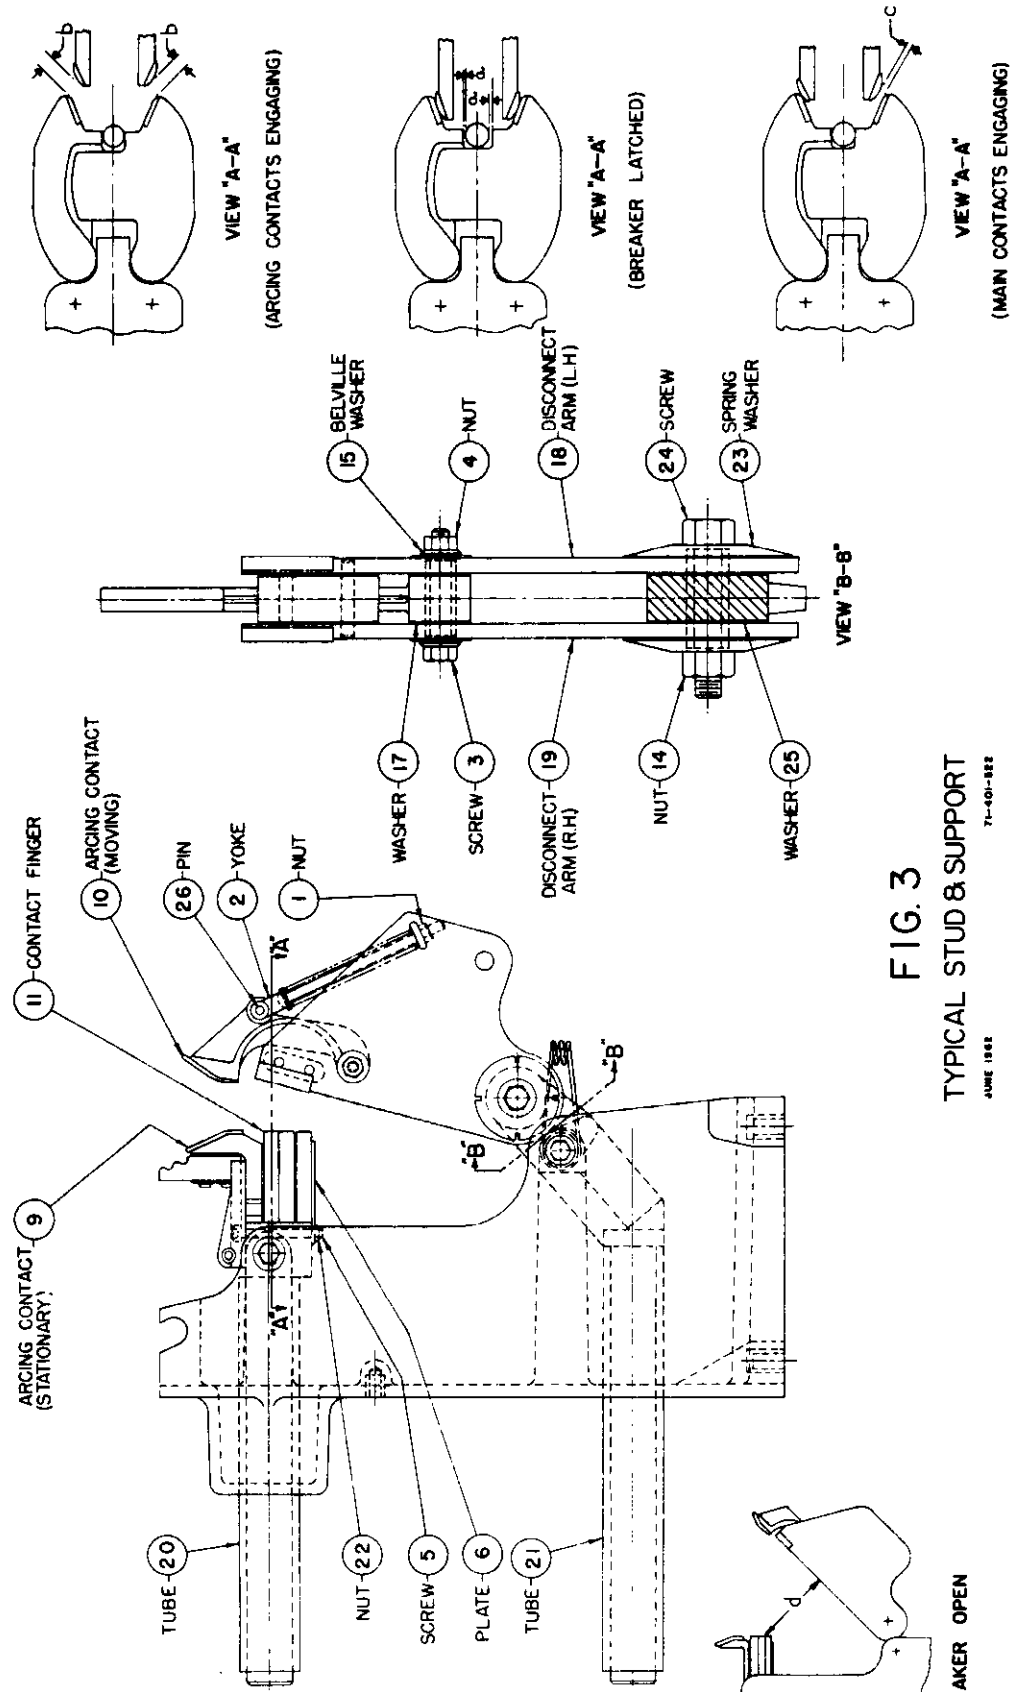

FIG. 3
- 19- Remove disconnect arms as a unit by removing screw (3-24) and nut (3-14). Refer to Fig. 3. Carefully inspect all contact surfaces in hinge joint. Silver washer (3-25) and adjacent surfaces should be clean and free of roughness or galling. Lubricate silver washer and mating surfaces by rubbing in microfine dry graphite used sparingly. Reassemble hinge joint. Tighten hinge joint per Section 4.10.